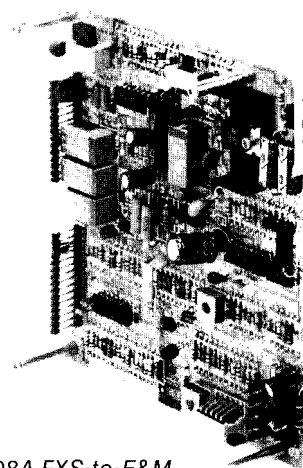

figure 1. 6008A FXS-to-E&M
1.01 The 6008A FXS-to-E&M Signaling Converter plug-on subassembly (figure 1) provides bidirectional conversion between foreign-exchange station-end (FXS) signaling, which is the type of loop signaling normally used at the station end of a foreign-exchange (FX) or off-premises-station (OPS) circuit, and the E&M signaling used by a carrier channel (or a PBX). As an alternative, the 6008A can be used at both ends of an E&M facility to provide automatic ringdown operation. In its primary application (FXS to E&M), the 6008A converts FXS signaling from the station end of the circuit to E-lead outputs (with A-side signaling) or M-lead outputs (with B-side signaling) toward the carrier channel or PBX, and converts M-lead inputs (with A-side signaling) or E-lead inputs (with B-side signaling) from the carrier channel (or PBX) to FXS-type supervisory and ringing signals toward the station end. The 6008A subassembly is designed expressly for optional use on the Tellabs 6131 2Wire-to-4Wire or 4Wire-to-4Wire Terminal Interface Module.